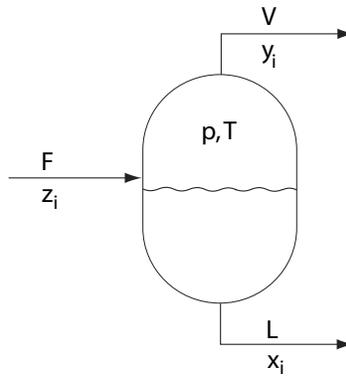

Figure 7.4: Flash tank
Flash calculations are used for processes with vapor/liquid-equilibrium (VLE). A typical process that requires flash calculations, is when a feed stream (F) is separated into a vapor (V) and liquid (L) product; see Figure 7.4.
Let us first consider bubble point calculations, In this case the liquid-phase composition x_i is given (it corresponds to the case where V is very small ($V \geq 0$) and $x_i = z_i$ in Figure 7.4). *The bubble point of a liquid is the point where the liquid just starts to evaporate (boil)*, that is, when the first vapor bubble is formed. If the temperature is given, then we must lower the pressure until the first bubble is formed. If the pressure is given, then we must increase the temperature until the first bubble is formed. In both cases, this corresponds to adjusting T or p until the computed sum of vapor fractions is just 1, $\sum y_i = 1$ or
Let us next consider **dew point** calculations. In this case the vapor-phase composition y_i is given (it corresponds to the case where L is very small ($L \gtrsim 0$) and $y_i = z_i$ in Figure 7.4). The dew point of a vapor (gas) is the point where the vapor just begins
Next, consider a **flash** where a feed F (with composition z_i) is split into a vapor product V (with composition y_i) and a liquid product (with composition x_i); see Figure 7.4 on page 189. For each of the N_c components, we can write a material balance